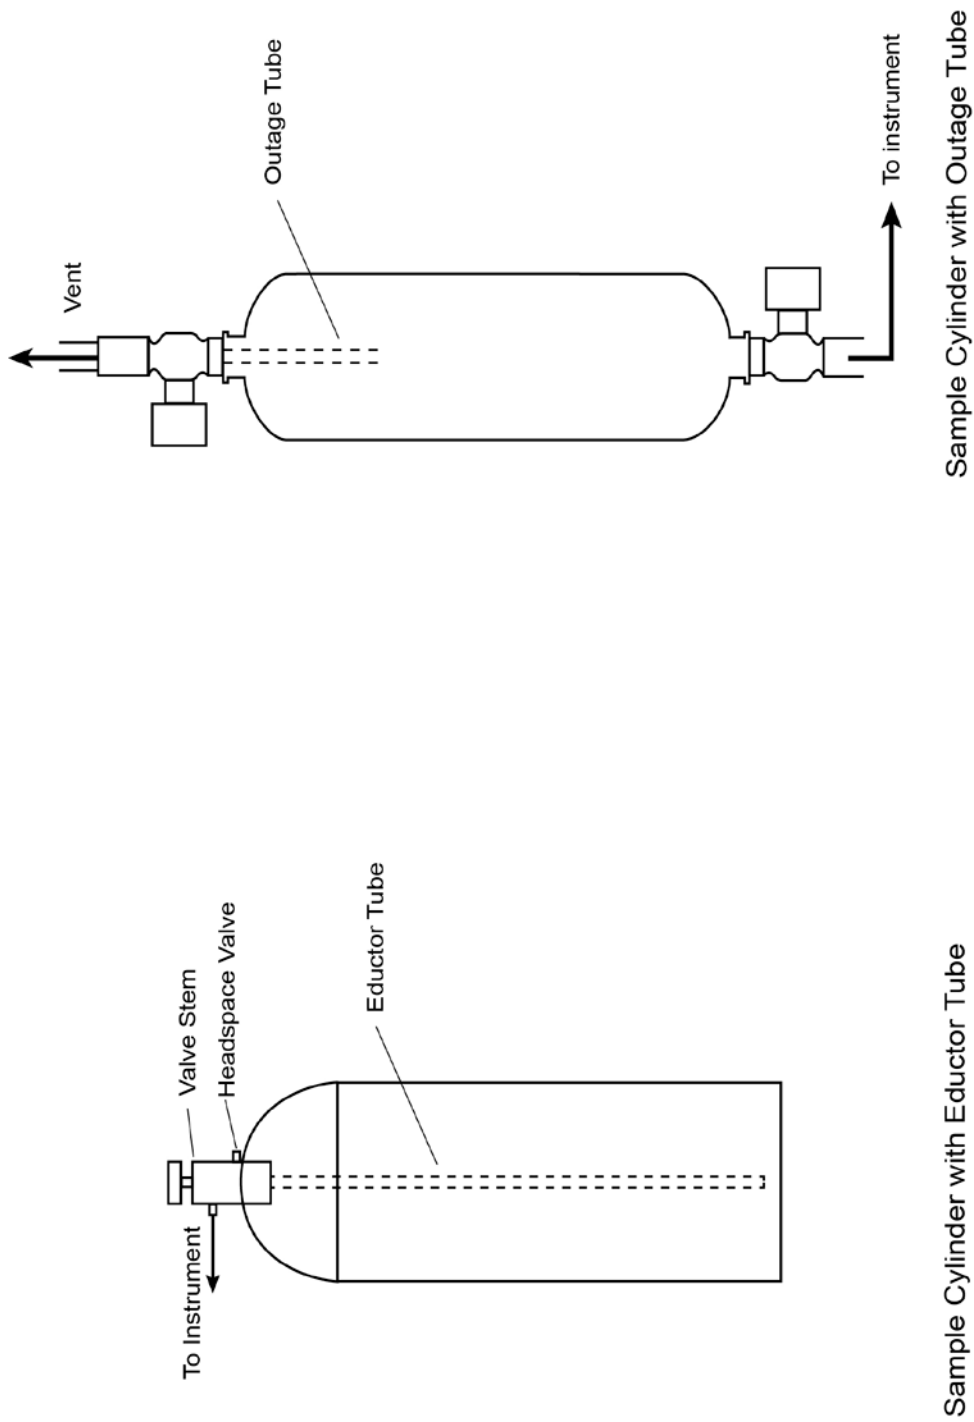

Figure 3
- LPG samples are usually contained in a cylinder having valves on both ends or, in some cases, a cylinder where one of the valves is connected to an eductor tube. If the sample cylinder contains an eductor tube, invert the cylinder and briefly open the valve not connected to the eductor tube to check that no water or sediment is present. See Figure 3 for diagram of common LPG cylinders.